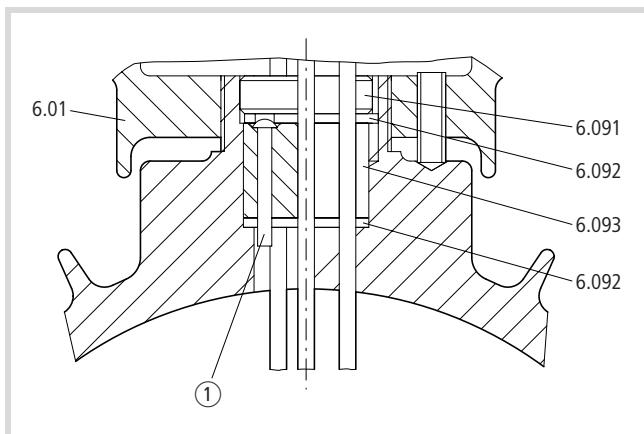

Figure 22: Passing the stator winding lead to terminal box
- Pass the stator winding leads and the additional cores through the sealing ring (6.093) located between two pressure plates (6.092) (→ Fig. 22).
The rivet head must lie under the upper pressure plate (6.092) (→ Fig. 22).